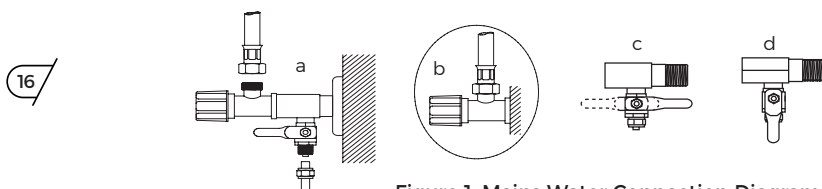

Figure 1. Mains Water Connection Diagram
- First, wrap Teflon tape around the 1/4 ball valve and attach it to the three-way adapter in a position that allows easy opening and closing (Figure 1.a).
- Connect the water inlet hose of the device to the ball valve (Figure 1.b).
- Ensure that the ball valve is in the closed position (Figure 1.c).
- Turn on the mains water supply valve and check for any leaks (Figure 1.d).